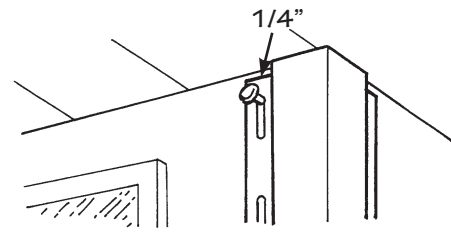

Figure 49.
- Place the first nails in the uppermost end of the top nail slots to hold them in position (Fig. 49). Place all other nails in the center of the slots. Nails should be 8" to 12" (203mm to 305mm) apart.